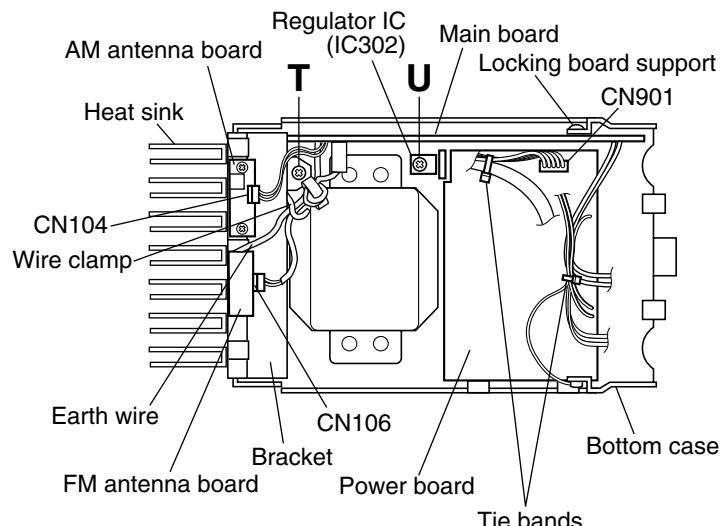

Fig.19
2. From the top side of the main body, remove the wires from the connectors CN104 and CN106 on the AM and FM antenna boards. (See Fig.19.)
6. From the top side of the main body, remove the wire clamp bundling the wires. (See Fig.19.)
7. Remove the screw **T** retaining the bracket of the main board. (See Fig.19.)
8. Remove the screw **U** retaining the regulator IC(IC302). (See Fig.19.)
(See Fig.19.)
10. Disconnect the wire from the connector CN901 on the power board. (See Fig.19.)
11. Remove the locking board support on the main board, and then take out the main board from the bottom case. (See Fig.19.)